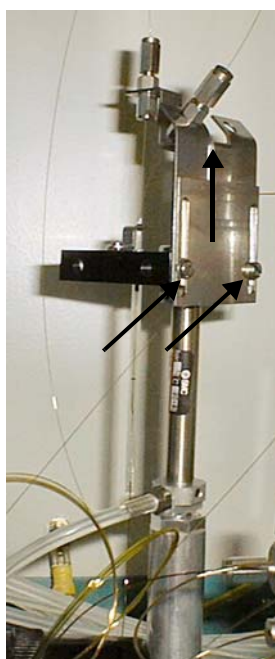
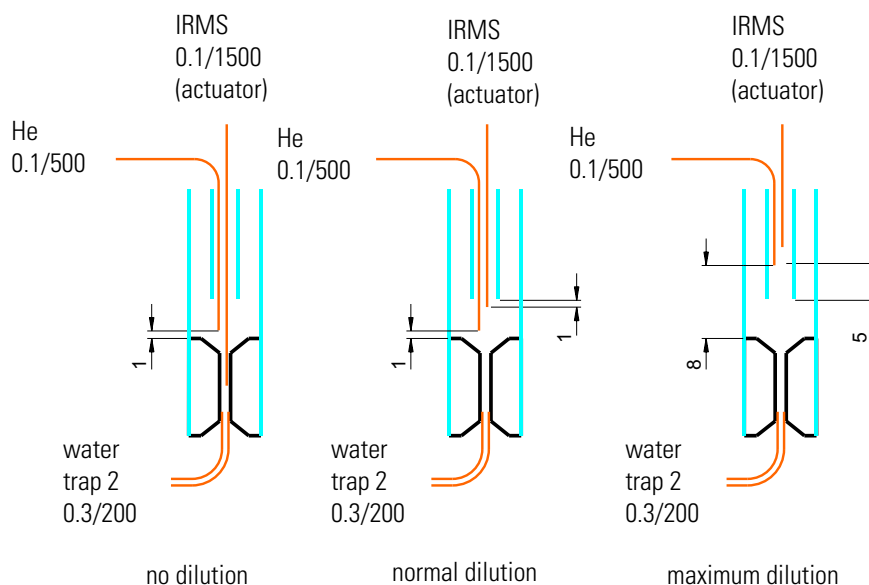

Figure 5-16. Adjusting open split for blanking
Figure 5-17. Principle of blanking
2. Move the small metal plate that limits the movement of the autodiluter's pneumatic lever fully upwards. See arrows in Figure 5-16.
Additionally, the capillary feeding the split with helium needs to be retracted into the inner glass tube. See Figure 5-16 and Figure 5-17.